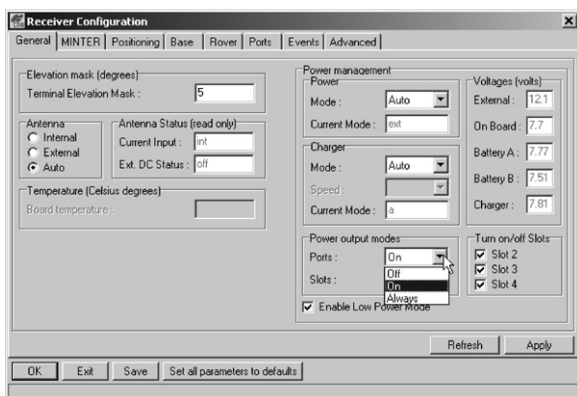

Figure 2-15. Select Power Output Modes – Ports
5. Select the Power output modes Ports drop-down list to set power output on serial ports (Figure 2-15).